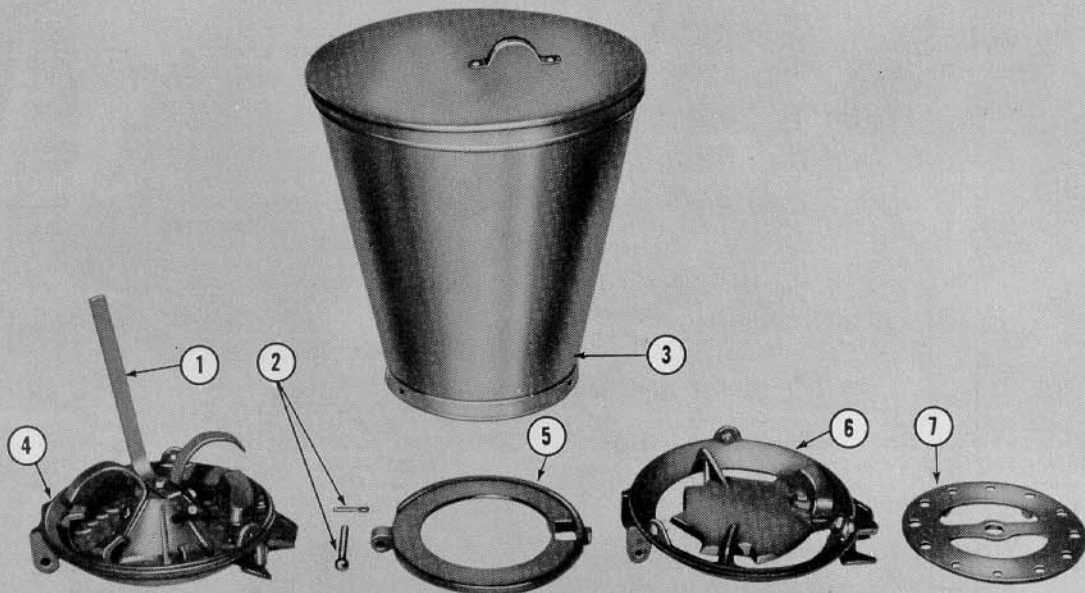
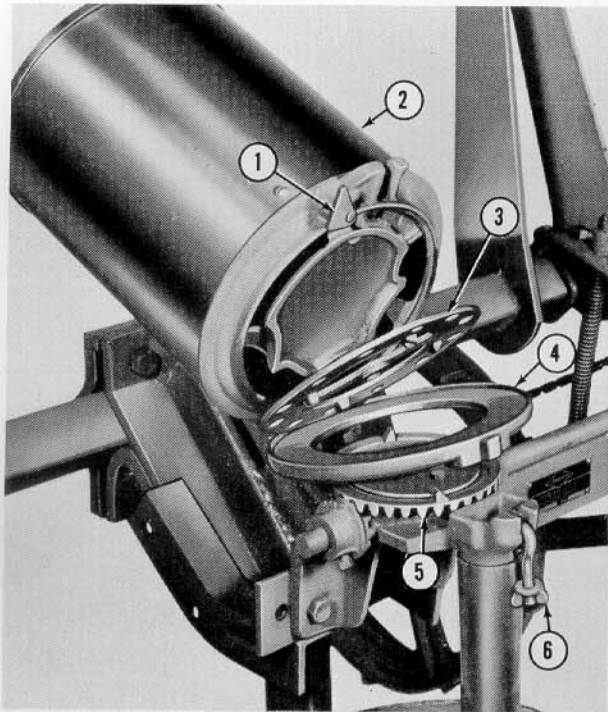
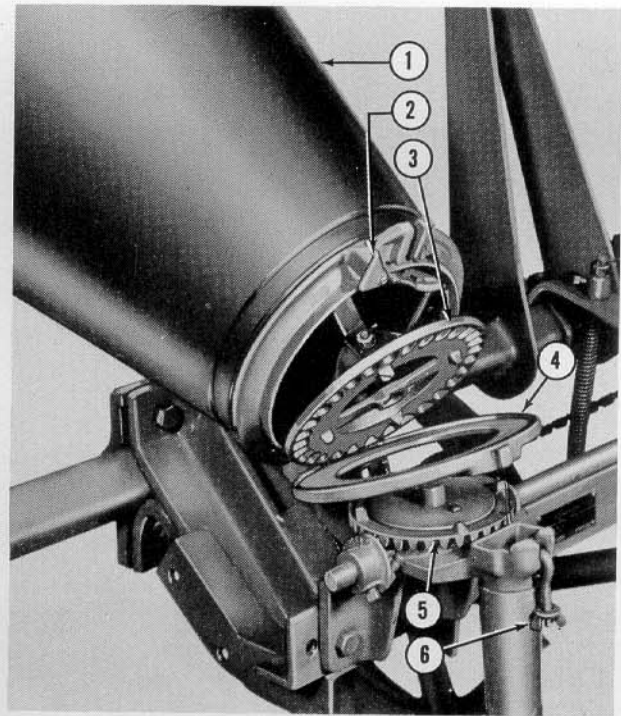

Figure 10
Figure 11
Figure 12
8. To complete the assembly of Model 12-26 attach the can bottoms (6), Figure 10, to the corn cans (2), Figure 11, with the bolts provided on the bottoms.
- a. Place the retaining ring (4) and the seed can over each ring gear (5), Figure 11, and secure the forward end to the seed can brackets with hinge bolts and cotter pins provided.
- b. Tilt the seed can forward and place the drilled plate (3), Figure 11, on the retaining ring (4) with the driving lugs down.
- c. Secure the retaining ring and the seed plate to the seed can bottoms with the latch (1), Figure 11.
- d. Secure the rear end of the seed cans to the seed outlet with the eye bolt, washer and wing nut (6), Figure 11.
9. To complete the assembly of Model 12-28 attach a cotton bottom (4), Figure 10, to each combination seed can (3) with the three bolts provided on the corn bottoms (6).
- a. Bolt a long agitator (1) to each cotton plate as shown in Figure 10.
- b. Place a retaining ring (5) and seed can (3), Figure 10, over the ring gear (5), Figure 12, on each seed can bracket as shown. Secure the forward end with
- hinge bolts and cotter pins (2), Figure 10.
- c. Tilt the seed can (1) forward as shown in Figure 12 and insert the cotton plate (3).
- d. Secure the retaining ring and the cotton plate to the cotton bottom with the latch (2), Figure 12.
- e. Secure the rear end of the seed cans to the seed outlet with the eye bolt, washer and wing nut (6), Figure 12.
10. Attach a corn bottom (6), Figure 10, to each combination seed can (3) with the three bolts provided.
- a. Place a retaining ring (5), Figure 10, and one seed can over the ring gear of each seed can bracket and secure with hinge bolts and cotter pins (2) provided.
- b. Tilt the seed can forward and place the drilled plate (7), Figure 10, on the retaining ring with the driving lugs down.
- c. Secure the retaining ring and the seed plate to the seed can bottoms with the latch (2), Figure 12.
- d. Secure the rear end of the seed cans to each seed outlet with the eye bolt, washer and wing nut (6), Figure 12.